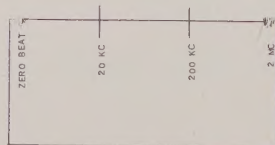

Fig. 4-2 Variable marker used to check logarithmic sweep.
- c. Set C-W generator for 200 kc and mark position of 200-kc marker on the sweep trace. Now set C-W generator to 20 kc and mark position of 20-kc marker on the sweep. Distance between the zero beat, 20-kc mark, 200-kc mark and 2-mc beat should be approximately the same (frequency spread is logarithmic). Fig. 4-2.